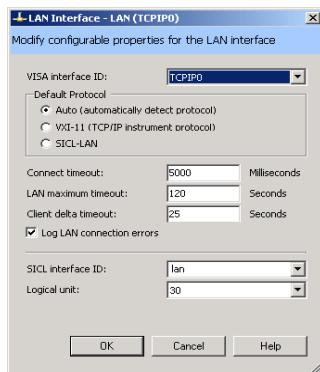

Figure 4 LAN Interface Configuration Dialog Box
- 2 Select a **LAN interface** in the explorer pane. Click the **Change Properties...** button in the properties pane. The *LAN Interface* dialog box appears, as shown in Figure 4.